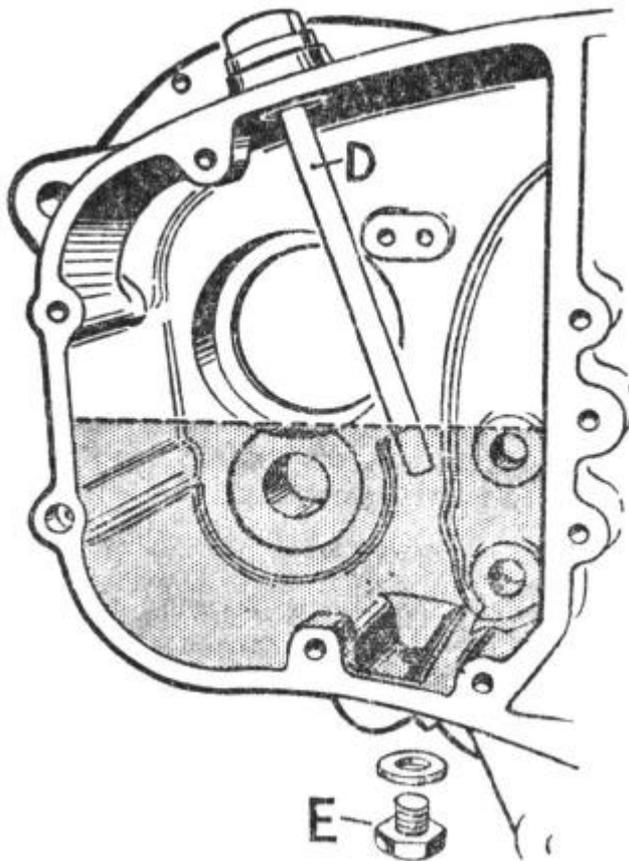

FIGURE 24.
Apart from topping-up at regular intervals, very little maintenance should be required. The filler plug carries a dipstick (D) Fig. 24, and the oil level should be maintained at the mark on the stick.
To drain the case, which should preferably be undertaken while the oil is warm after a run, unscrew the drain plug (E) Fig. 24, below the case. When replacing, make sure that the sealing ring is in good condition otherwise there may be a leakage of oil. The capacity of the gearbox is approximately 5/8 U.S. pint (1/2 British pint), and suitable oils are detailed on page 28.